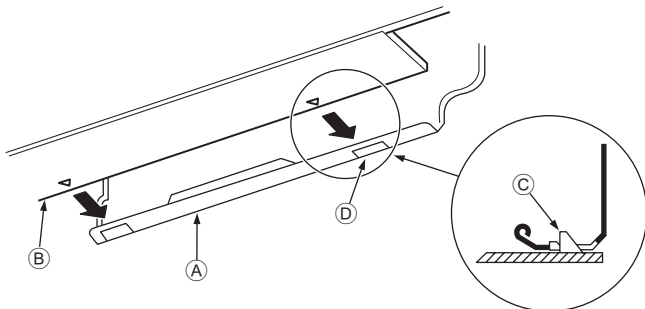

Fig. 3-10
3. While inserting the refrigerant piping and drain hose into the wall penetration hole (penetration sleeve), hang the top of the indoor unit to the mount board ①.
5. Fasten by pushing the bottom part of the indoor unit onto the mount board ①. (Fig. 3-10)
* Check that the knobs on the bottom of the indoor unit are securely hooked into the mount board ①.
- Ⓐ Mount board ①